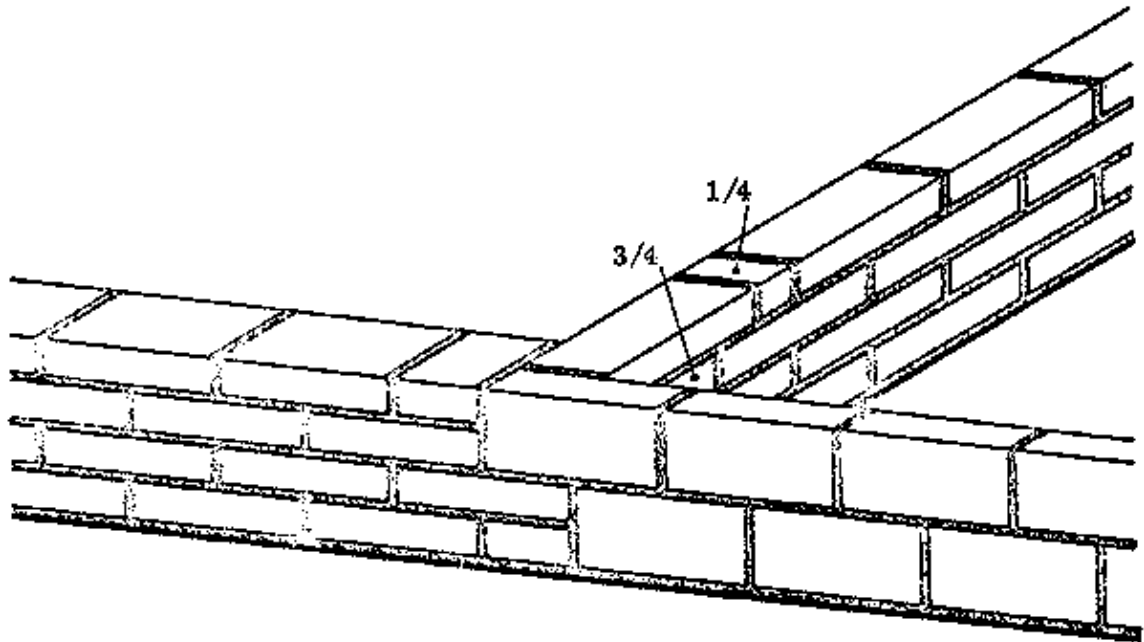

Fig. 2 SITUATION "A" – SPECIALLY MADE BLOCKS, OUTSIDE FLUSH.
– SITUATION "A", SPECIALLY MADE BLOCKS, OUTSIDE FLUSH: Bonding becomes simpler and more economical when these blocks are used. Fig. 2 shows that there is no material wasted since the 1/4 block which is left from cutting the 3/4 block will be used in the fourth flatwise course.